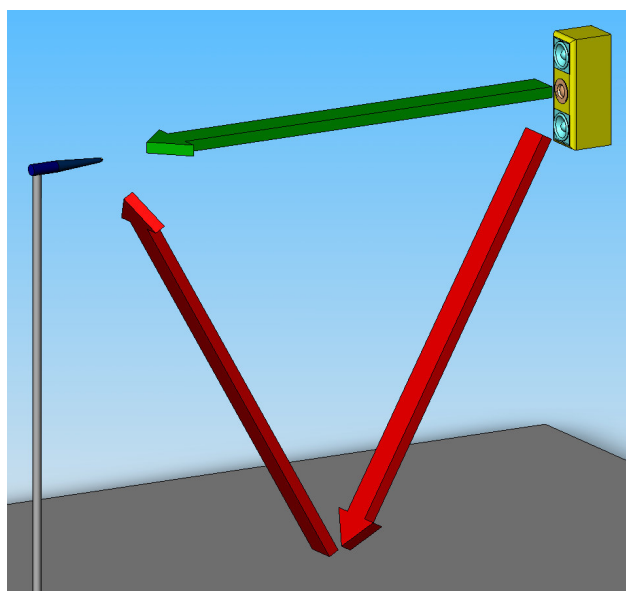

Figure 13 - Satellite close to floor, Red is Reflection
However you can see another strong impulse arriving already about 2.5ms after the main impulse. That is the reflection from the floor, which is only 82cm below the speaker and microphone, Fig. 13.
Fig. 13 is illustrating the problem where the reflection from the floor is too close to the main signal, because there is little difference between the direct distance (green arrow) and the reflection path (red arrows). We can do two things to improve that: Move the microphone closer to the speaker and/or move both speaker and microphone further away from the floor (or other surfaces).
- d. The idea is to choose a window which will pass the decaying pulse, but avoid the reflections which are arriving later (see for example Fig. 13)